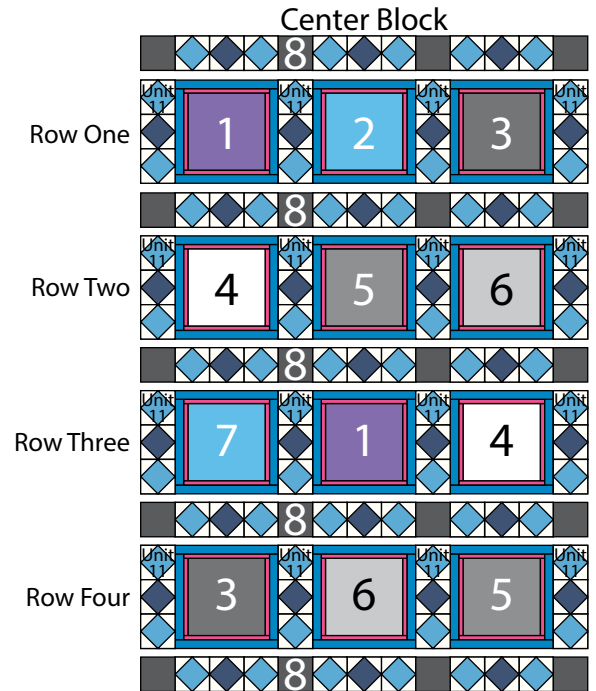

Fig. 23
12. Sew together (1) Unit 11 strip, (1) Block One square, (1) Unit 11 strip, (1) Block Two square, (1) Unit 11 strip, (1) Block Three square and (1) Unit 11 strip, in that order from left to right, to make Row One (Fig. 23).
13. Repeat Step 12 and refer to Figure 23 for component identification, placement and orientation to make Row Two, Row Three and Row Four.
14. Sew together the (5) Block Eight strips and (4) Pieced Rows in numerical order, alternating them from top to bottom, to make the 52 ½" x 68 ½" Center Block (Fig. 23).